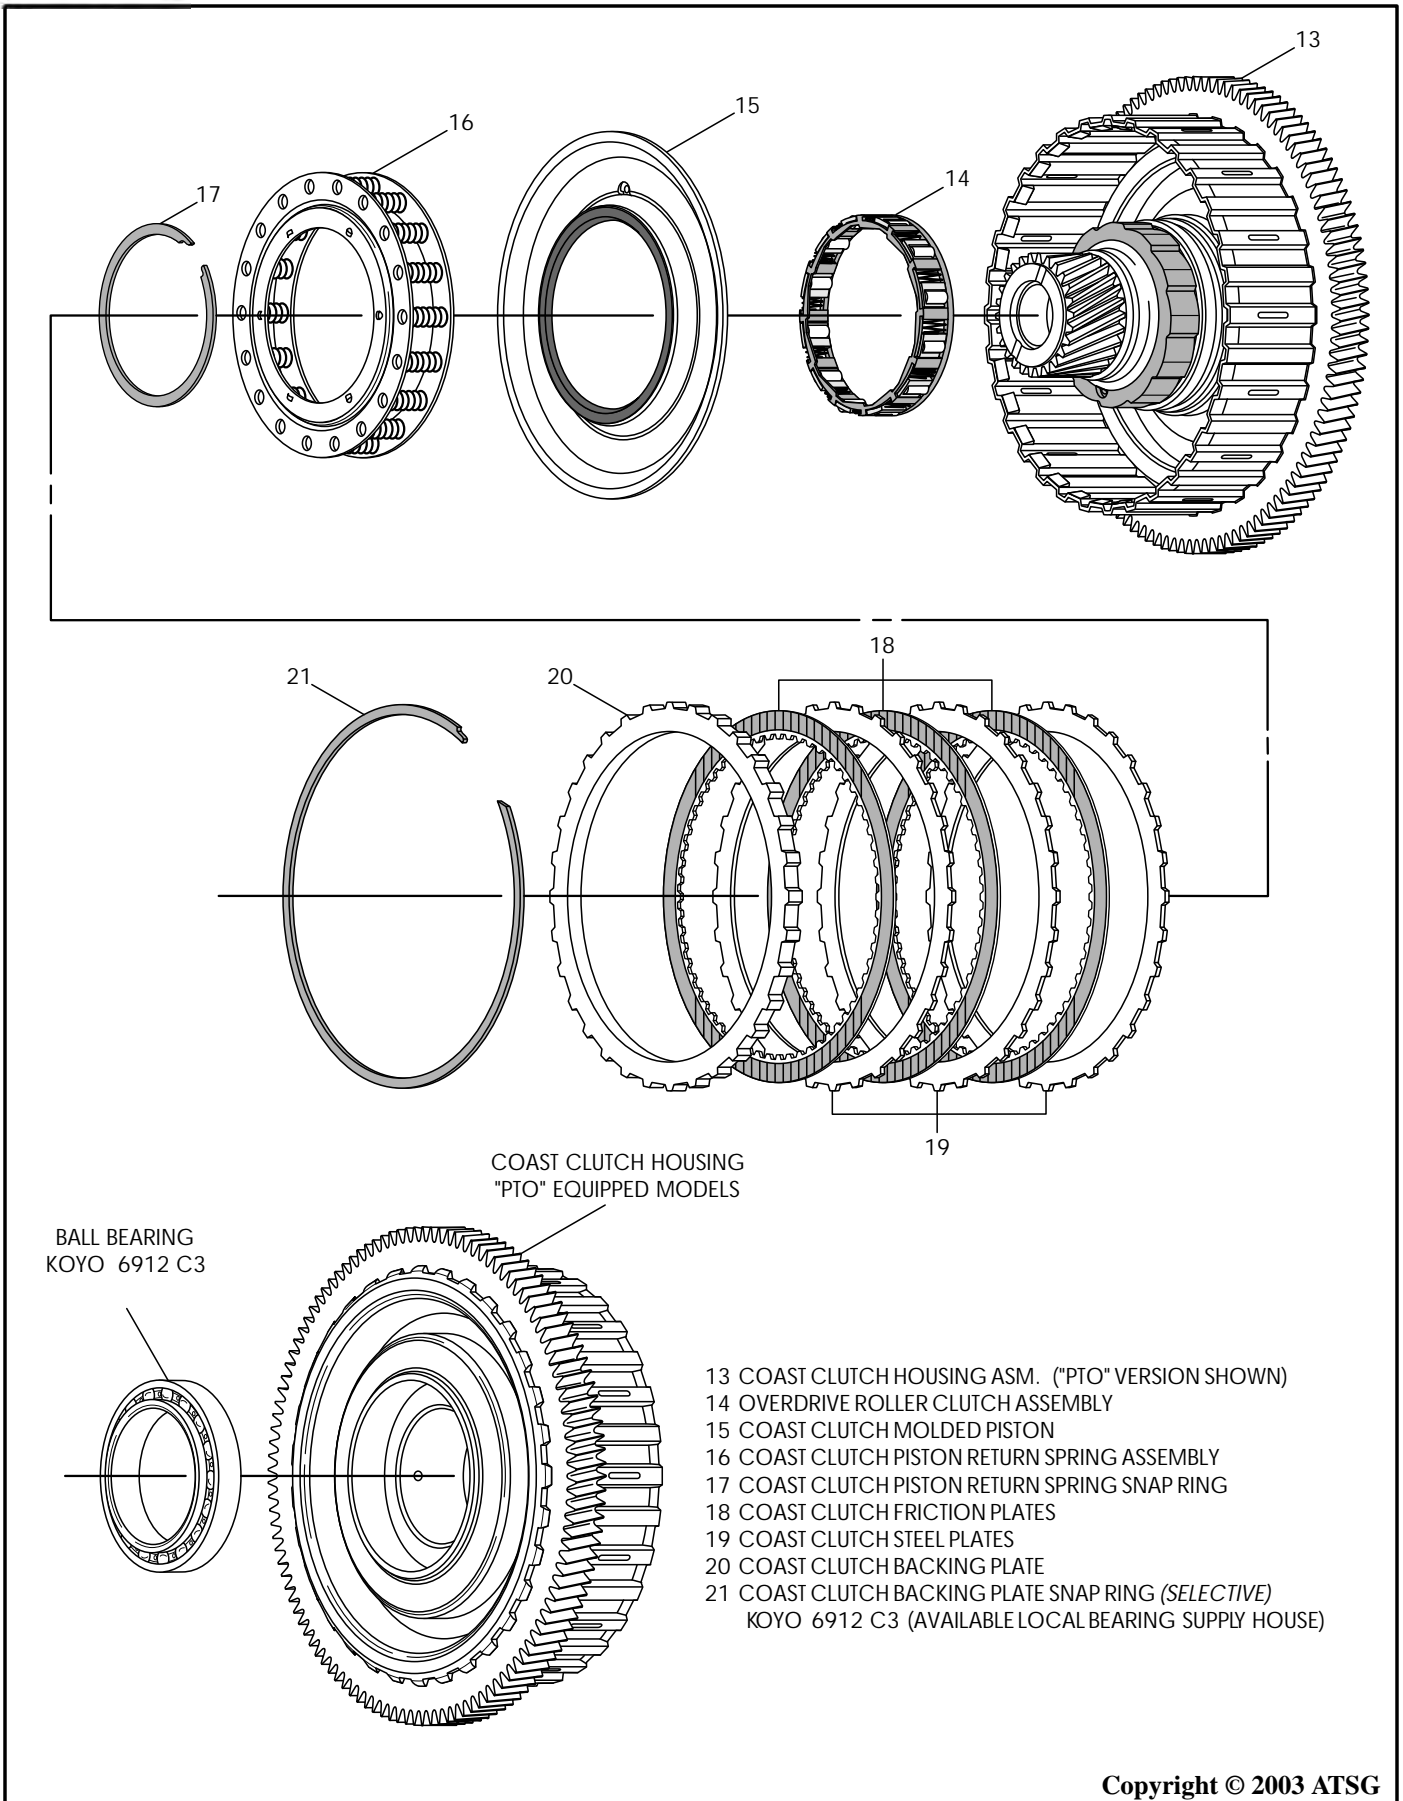

Figure 149
4. Remove and discard the molded coast clutch piston. (See Figure 149).